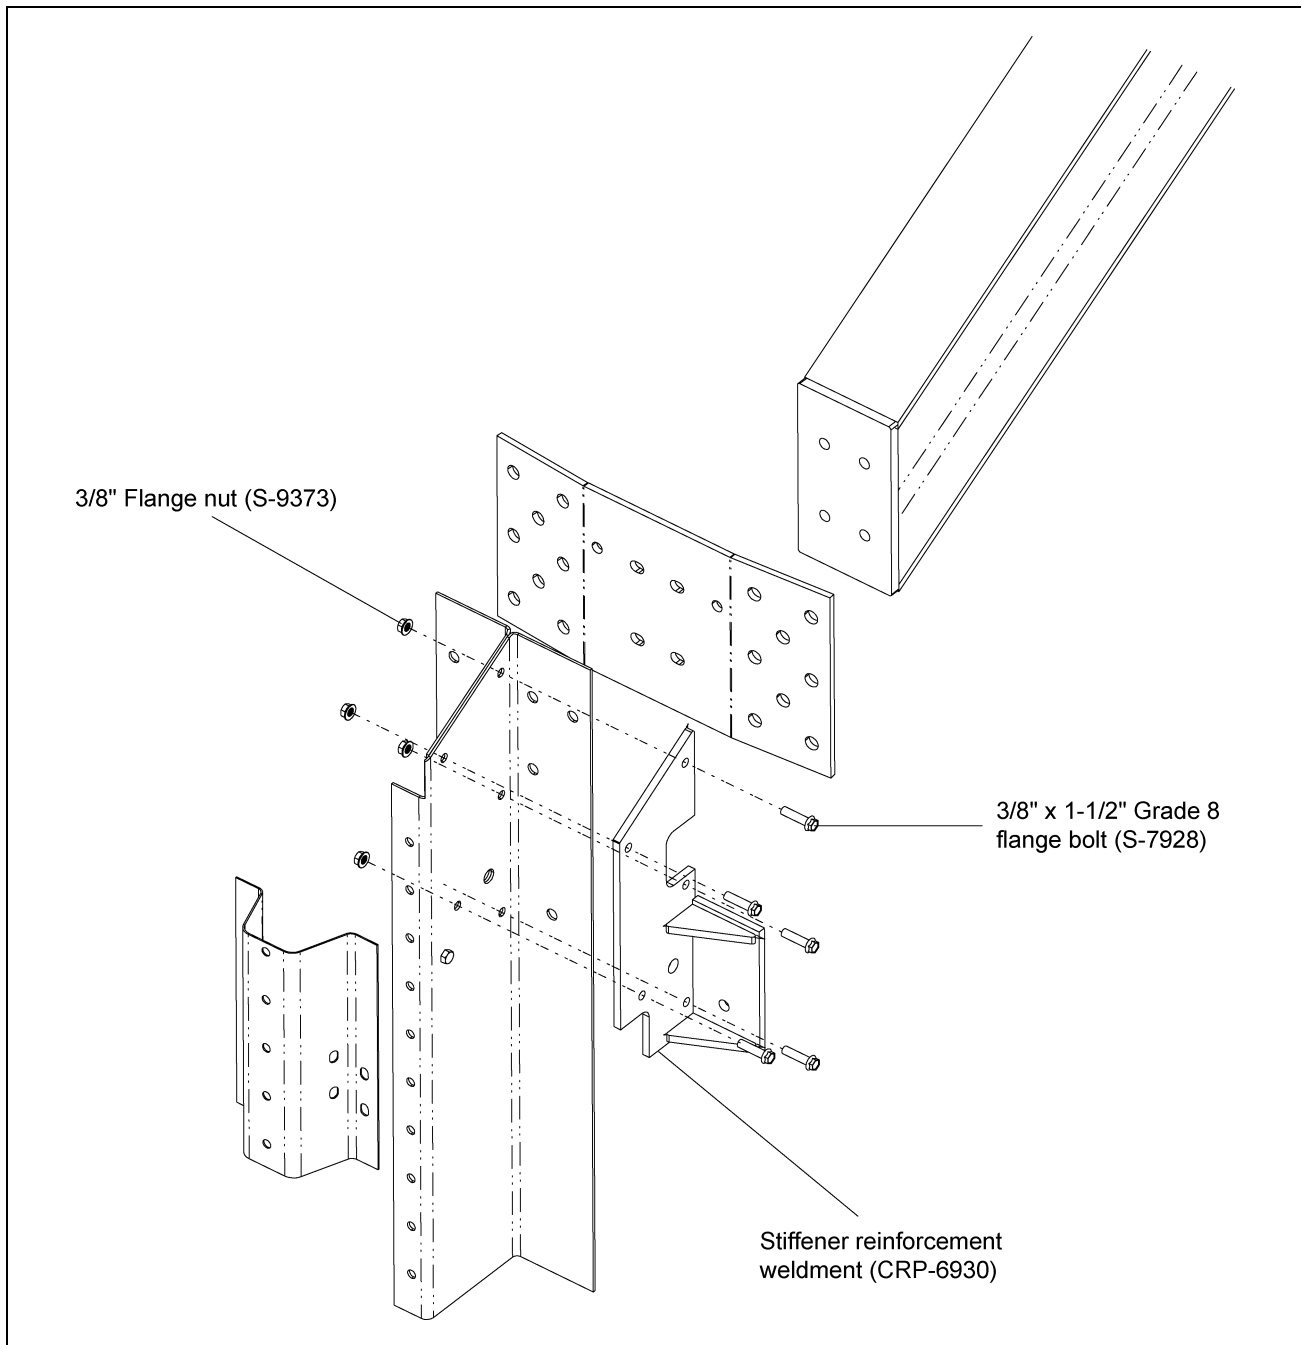

Figure 3A
1. Install CRP-6930 to every roof beam stiffener as shown in Figure 3A using five (5) 3/8" x 1-1/2" grade 8 flange bolts (S-7928) and flange nuts (S-9373).